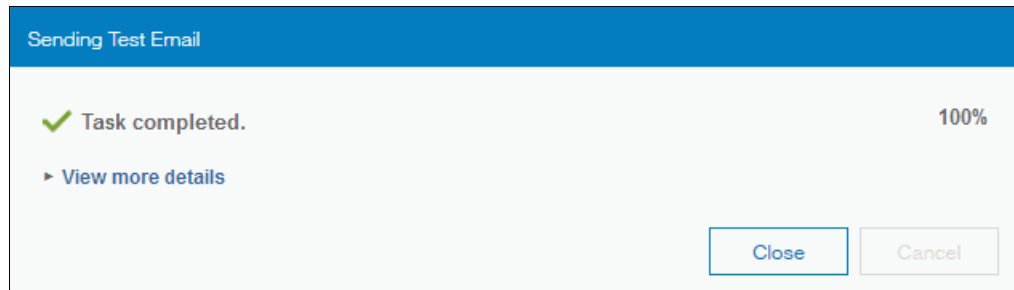

Figure 6-68 Sending test email status pane
20. The Sending Test Email status pane is displayed (Figure 6-68).